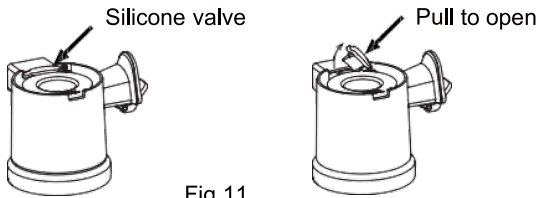

Fig 11
3. In case there is any residues remained in the mouth of the pulp spout, please pull out the silicone valve as shown in (Fig 11) below and clean under running water.